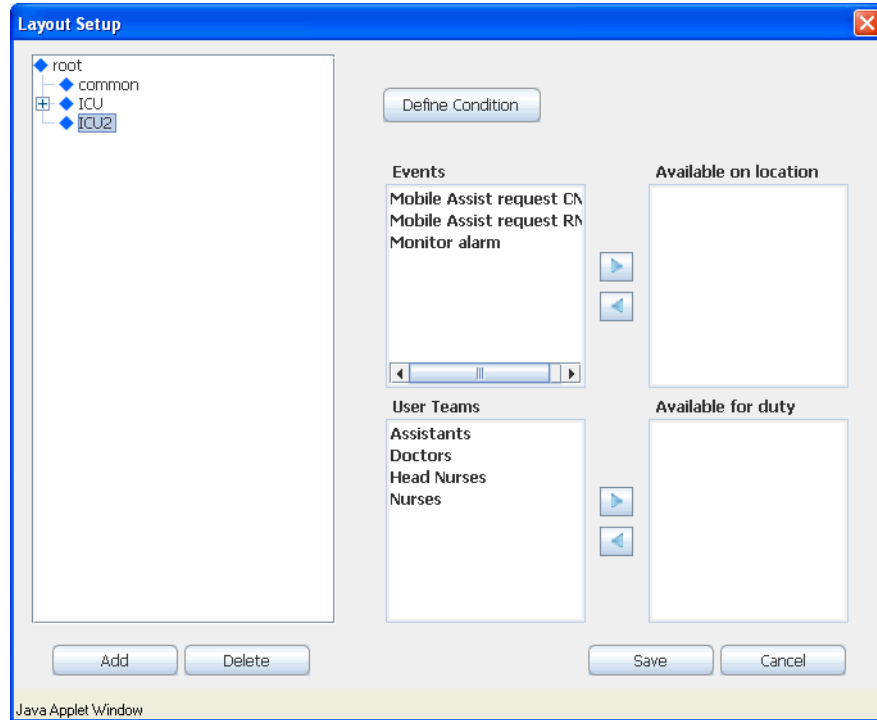

Figure 71. A new location has been added.
- 1 Click "Define Condition", see figure 71 on page 63.